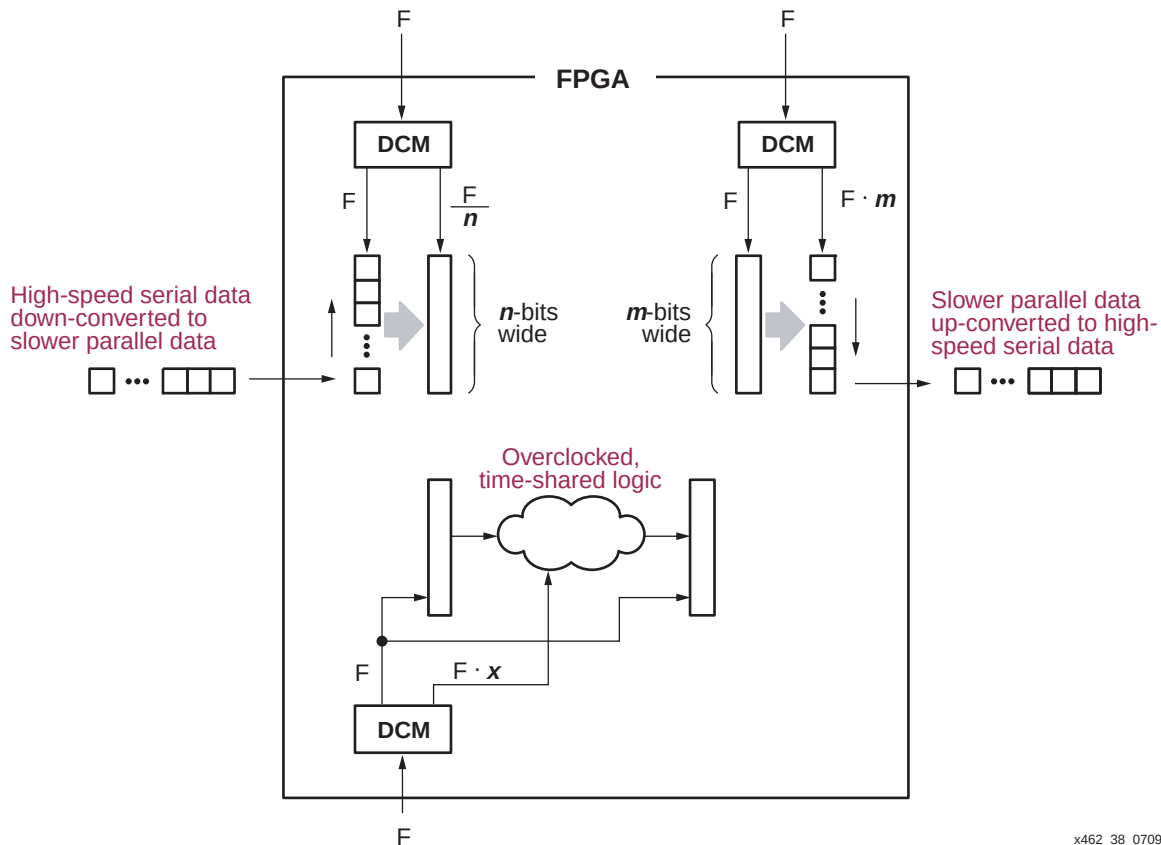

Figure 3-39: Common Applications of Frequency Synthesis
- Dividing a high-speed serial data clock to process data in parallel within the FPGA, as shown in Figure 3-39.
- Multiplying a parallel data clock before converting to a high-speed serial data format, also shown in Figure 3-39.